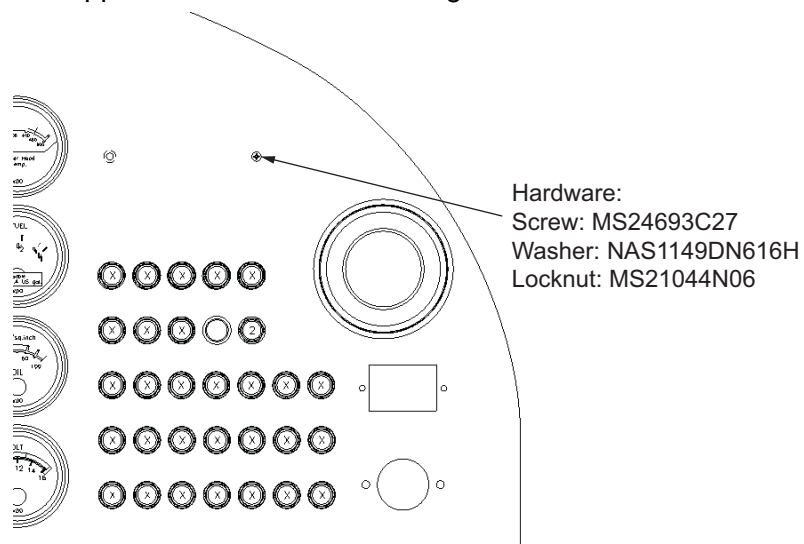

Figure 2
- 10.6.1 Remove the encoder from the instrument panel and plug the outboard hole with supplied hardware. Refer to Figure 2.